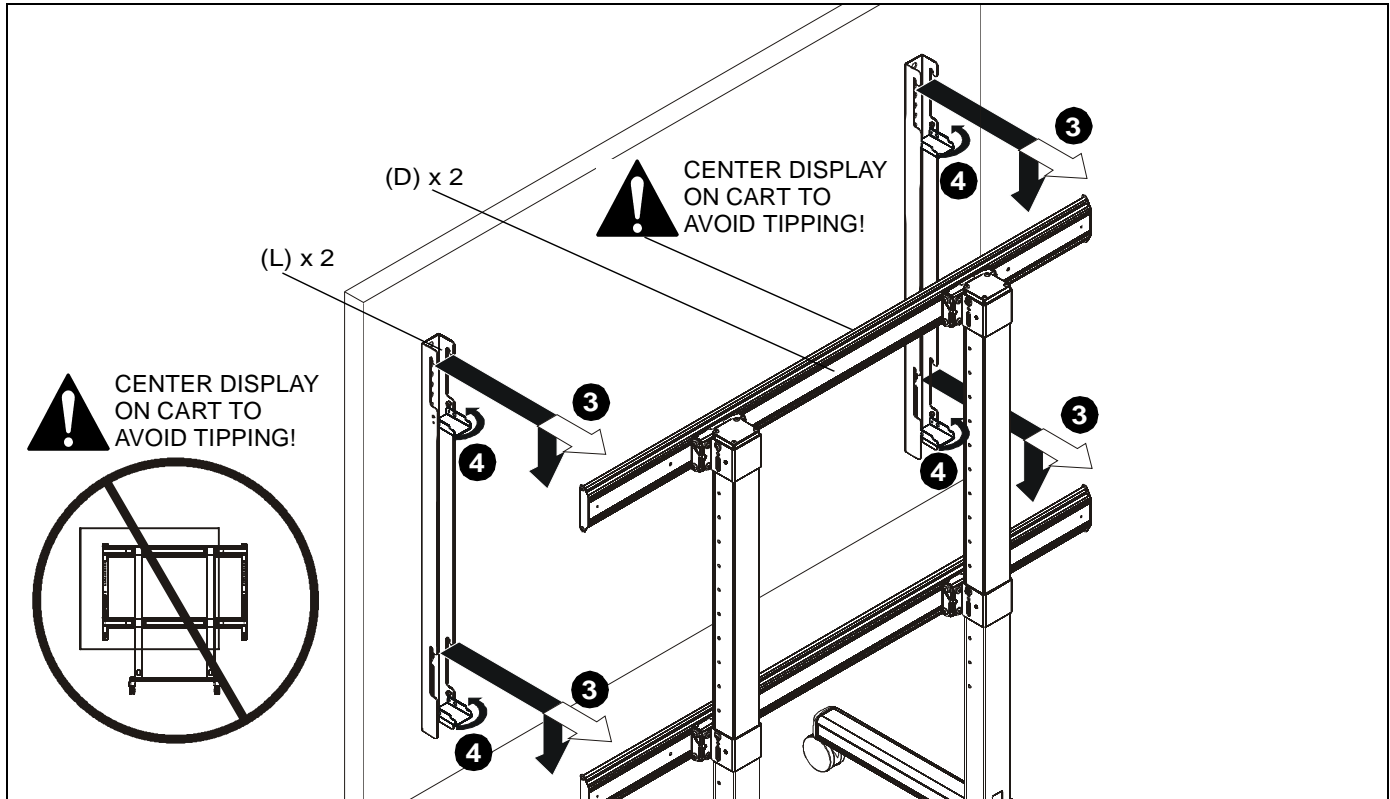

Figure 8
(See Figure 8)
4. Lift locking brackets on interface brackets (L) up to the back of mounting rails (D). (See Figure 8)